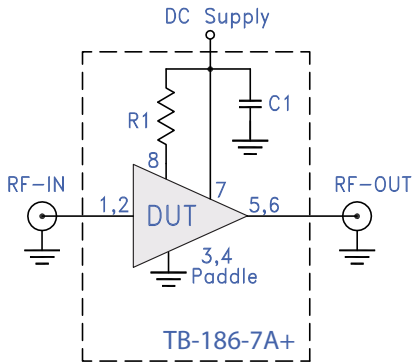

Fig 1. Block Diagram of Test Circuit used for characterization. (DUT soldered on Mini-Circuits Characterization test board TB-313)
1. Measured on Mini-Circuits Characterization test board TB-186-7A+. See Characterization Test Circuit (Fig. 1)